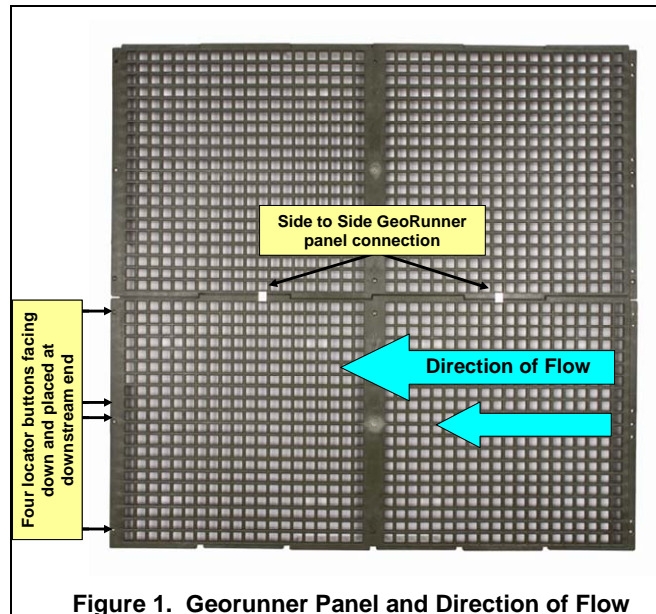

Figure 1. Georunner Panel and Direction of Flow
2. The panels shall be placed with the locator buttons on the downstream side of the panel and with the long direction (4 foot length) in the direction of flow. Refer to Figure 1.